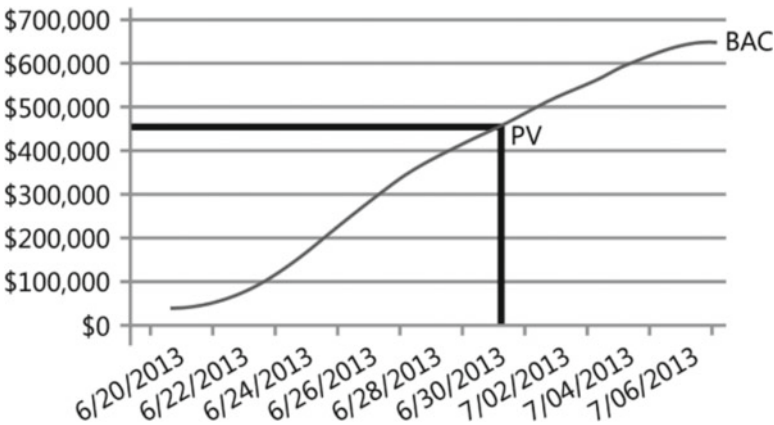

Figure 5-4. The project cost baseline showing PV and BAC
- *Budget at completion (BAC)*: The original forecast budget for the project. The BAC is also the total planned value (PV) for the project.
- *Planned value (PV)*: The amount of value you should have earned by this time in the project. Because the total PV for a project equals the BAC, you can determine the PV by simply determining how far through the project you are in relation to time, and mapping this back to the approved cost baseline. Figure 5-4 demonstrates how to determine the PV from the BAC.